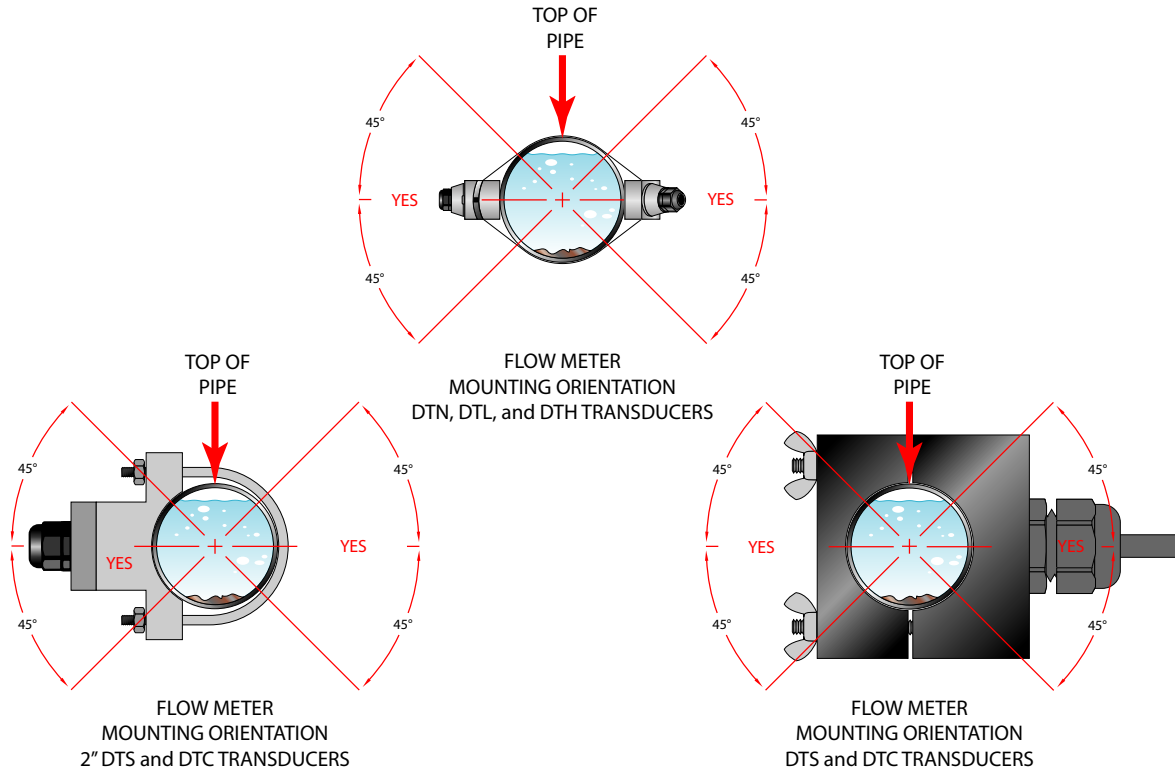

FIGURE 2.2 - TRANSDUCER ORIENTATION — HORIZONTAL PIPES
The DTN, DTL, and DTH transducers must be properly oriented and spaced on the pipe to provide optimum reliability and performance. On horizontal pipes, when **Z-Mount** is required, the transducers should be mounted 180 radial degrees from one another and at least 45 degrees from the top-dead-center and bottom-dead-center of the pipe. See **Figure 2.2**. Also see Z-Mount Transducer Installation. On vertical pipes the orientation is not critical.
DTS and DTC transducers should be mounted with the cable exiting within ± 45 degrees of the side of a horizontal pipe. See **Figure 2.2**. On vertical pipes the orientation does not apply.
- 2) On horizontal pipes, mount the transducer in an orientation such that the cable exits at ± 45 degrees from the side of the pipe. Do not mount with the cable exiting on either the top or bottom of the pipe. On vertical pipes the orientation does not matter. See **Figure 2.2**.
- 3) Crease the paper at the fold line. Mark the crease. Place a mark on the pipe where one of the transducers will be located. See **Figure 2.2** for acceptable radial orientations. Wrap the template back around the pipe, placing the beginning of the paper and one corner in the location of the mark. Move to the other side of the pipe and mark the pipe at the ends of the crease. Measure from the end of the crease (directly across the pipe from the first transducer location) the dimension derived in **Step 2**, Transducer Spacing. Mark this location on the pipe.